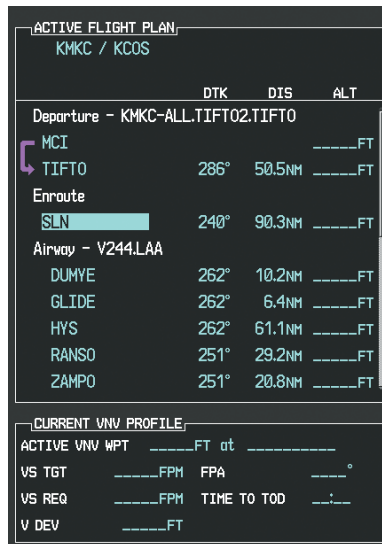

Figure 5-105 Begin Adding V4 to the Flight Plan
- b) The desired entry point for V4 (TOP) must be entered. Turn the large **FMS** Knob to highlight the desired flight plan insertion point (SLN) as shown in Figure 5-105. When the V4 entry point (TOP) is inserted, it is placed immediately above the highlighted waypoint (SLN).